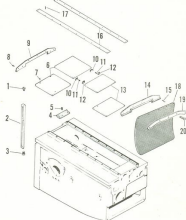

Figure 6. Knee Shields, Gibs and Wipers
19. TAPERED GIB (Figure 6) (Knee)
22. SLIDING SHIELDS--FRONT (figure 6)
1. Remove the front three screws (7) holding the retainer strips (16).
2. Remove the apron holder (19), apron (18) and saddle wiper (14) by removing screws (15 and 20).
3. Move the shields (13) forward and remove by sliding under the retainer strips.
23. SLIDING SHIELDS--REAR (figure 6)